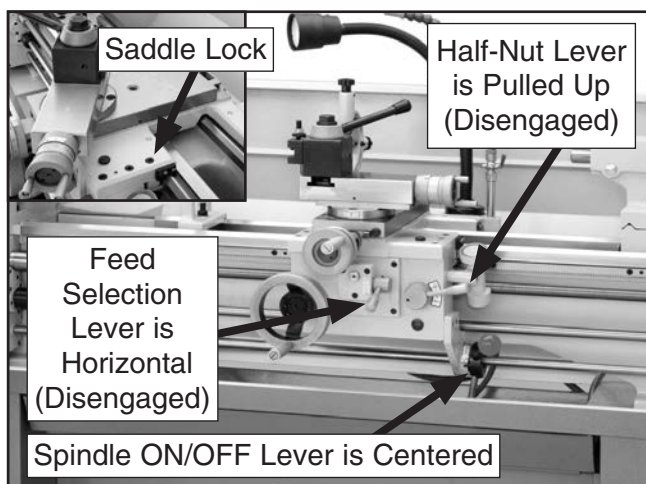
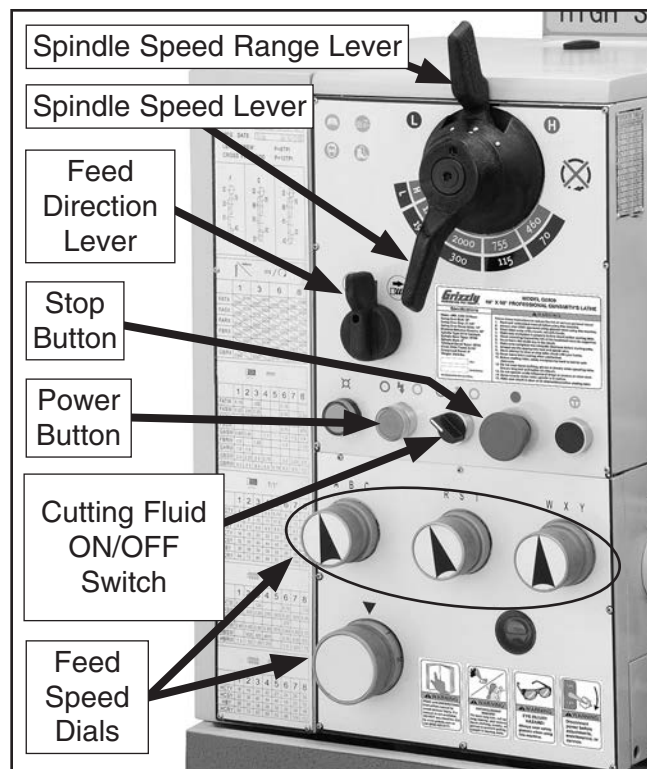

Figure 11. Apron controls.
Figure 12. Headstock controls.
- Disengage the half-nut lever and the feed selection lever (see **Figure 11**), and make sure the saddle lock is loosened to allow the lead screw or feed rod to move the apron if required.
- Rotate the stop button (**Figure 12**) clockwise until it pops out.
- Move the feed direction lever (see **Figure 12**) to the disengaged middle position.
Note: As long as the feed direction lever shown in **Figure 12** is disengaged, no torque will be transmitted to the quick change gearbox or any other gear-driven component. As a result, the feed speed dials shown in **Figure 12** can be left engaged or disengaged for the test run.
- Push the power button (see **Figure 12**), then move the spindle ON/OFF lever (see **Figure 11**) downward to start the lathe. The spindle will rotate at 70 RPM.